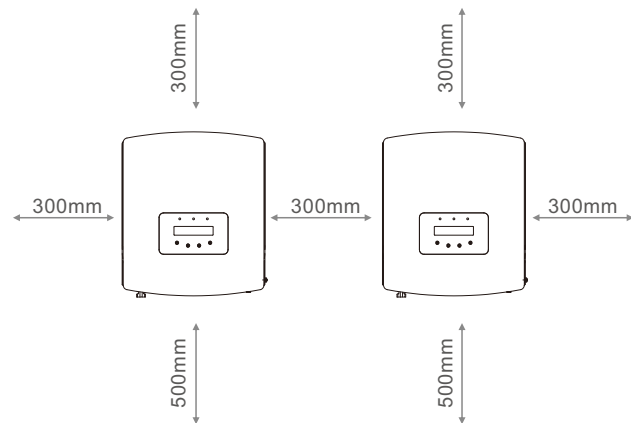

Figure 4.2 Inverter Mounting clearance
1. According to the figure 4.2, select the mounting height of the bracket and mark the mounting holes. For brick walls, the position of the holes should be suitable for the expansion bolts.